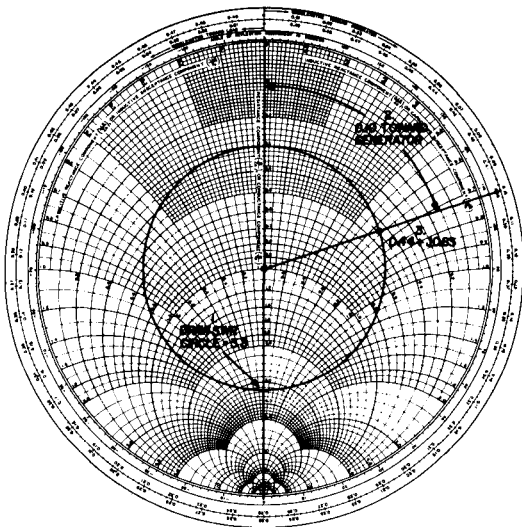

fig. 7. Example of determining impedance by use of a Smith chart. Courtesy Hewlett-Packard Company.
b. Draw an swr circle with a radius equal to 3.3, as shown in fig. 7.
d. Fig. 7 shows the radius line and circle intersecting at $0.44 + j0.63$, which is the normalized series impedance of the load.